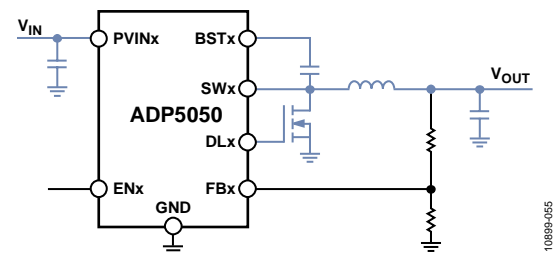

Figure 64. Typical Circuit with High Current Traces Shown in Blue
- Ensure that the high current loop traces are as short and wide as possible. Figure 64 shows the high current path.